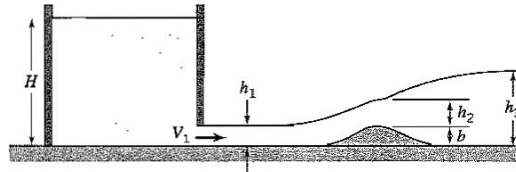

Figure P10.16
10.16 An exit of width W allows water to flow from a large tank into an open channel of the same width, as shown in Figure P10.16. The depth of water in the tank is maintained constant at H , which is large compared to h_1 , where h_1 is the depth of the water at the exit. As the water flows smoothly over a bump of height b , the depth increases so that the ratio $h_3/h_1 = 4$. There are no losses anywhere. Show that the Froude number F_1 is supercritical. Use Bernoulli's equation and continuity to find the numerical value of F_1 and the ratio b/h_1 .